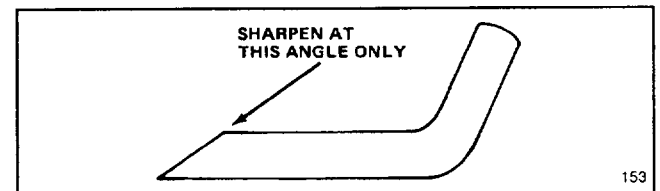

Figure 27
6. **SHARPENING BLADE**—Using a file, sharpen top side of blade (side facing mower housing) and maintain original cutting angle (Fig. 27). The blade will remain balanced if the same amount of material is removed from both cutting edges.